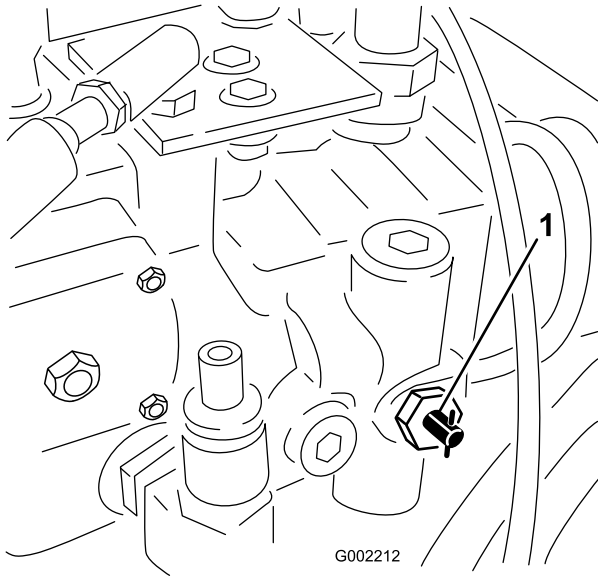

Figure 36
1. Rotate the tow valve (Figure 36) 90 degrees in either direction to open it.